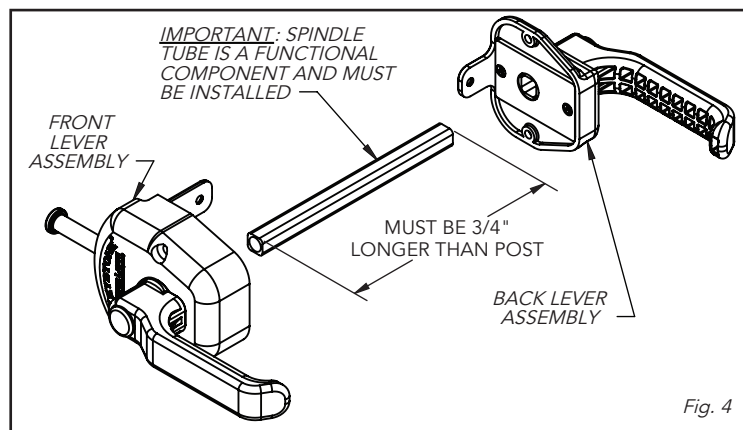

Fig. 4
1. Slide the spindle tube into the back lever assembly approximately 3/8" (Fig. 4).